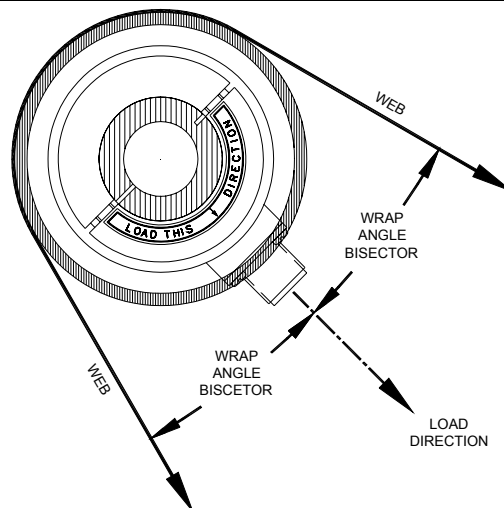

Figure 5 - Proper Orientation of the Cartridge Transducer
<p style="text-align: center;">Stud (S)</p>	<ol style="list-style-type: none"> 1. Before tightening the mounting bolt, rotate the transducer body until the force direction (indicated by the arrow on the label) is aligned with the vector of the web force. The vector of the web force is the bisector of the wrap angle. Refer to Figure 5. <hr/> <p> Rolls often have an uninterrupted shaft that extends to form the journals. Though the roll may be described as having a "dead shaft", neither journal end can rotate independently of the other. Attempting to rotate one transducer, while the other end of the roll is clamped can result in damage to the transducer.</p>